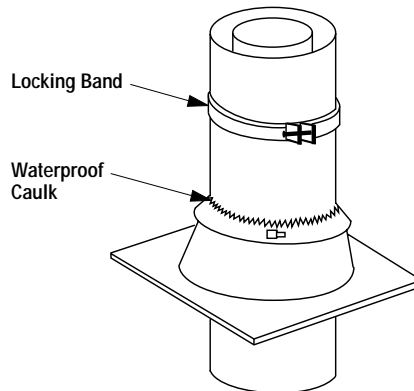

Figure 29
**Step 8.** The standard Security Chimneys roof flashing assemblies include a storm collar. Slide storm collar over outer chimney, align with top surface of flashing, insert tab in slot, pull tight and bend tab back over slot. Seal storm collar to outer chimney with waterproof roof caulking around entire circumference of pipe. Also add extra roof caulking where storm collar meets flashing and to the tab/slot area to seal completely against water penetration (Figure 29). Check all joints very carefully to ensure no water intrusion can take place.
**Step 9.** Security Chimneys locking bands, Model FLB, may be required if the chimney extends too high above the roof flashing. As a general rule, if the chimney extends more than 6' above the roof flashing, the use of locking bands is advisable to strengthen the chimney assembly. Align the locking band at the chimney joint. Locking bands wrap around pipe joints equally covering the joints of both pipe sections. Use the nut provided and TIGHTEN snugly. Do not overtighten as this might damage the chimney section (refer to Figure 29).